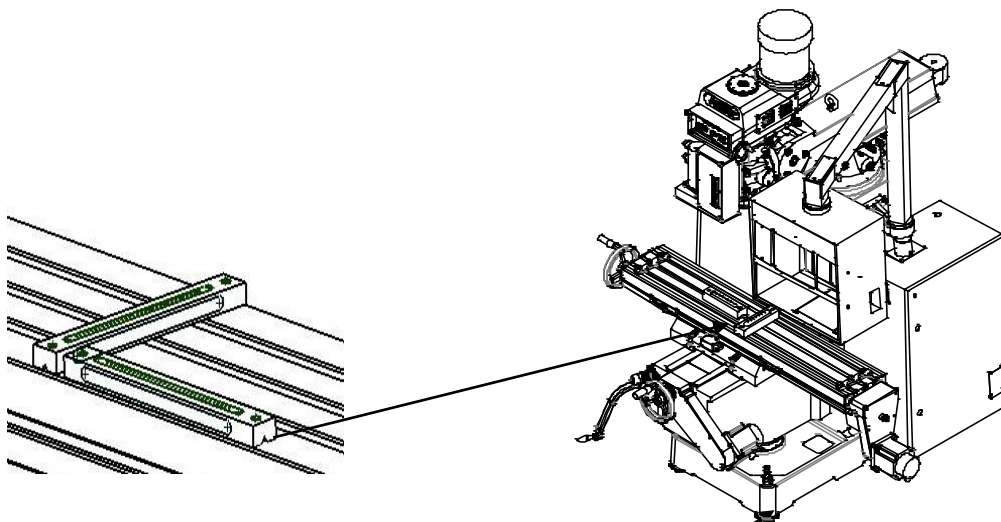

Fig. 5-3
- (1) Clean the worktable, then put two horizontal levels (as shown in Fig.5.3. Each graduation is 0.02mm / 1000mm) perpendicularly with each other. If there is only one level, the examination needs repeatedly in these two directions.